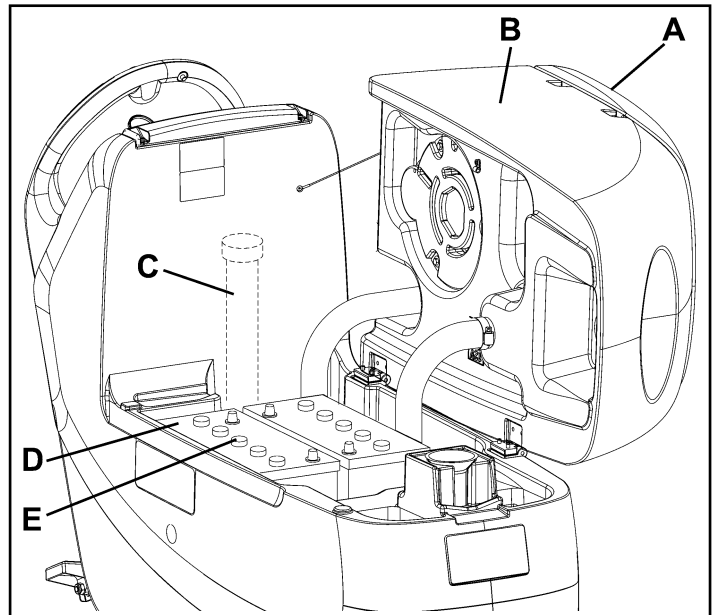

Figure 38
1. Open the cover (A, Fig. 38) and check that the recovery water tank (B) is empty, otherwise empty it with the drain hose (C).
4. Carefully lift the tank (B, Fig. 38).
- Check the level of electrolyte inside the batteries (D); if necessary, top up through the caps (E).
- Leave all the battery caps (E) open for next charging.
- If necessary, clean the upper surface of the batteries (D).